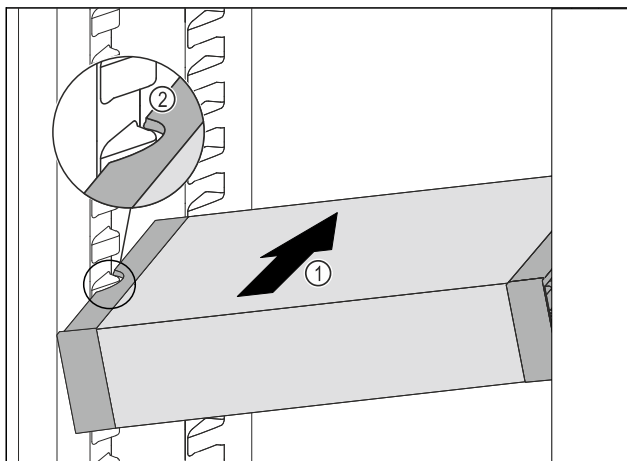

Fig. 196
- Insert the VarioSafe into the fridge section at an angle Fig. 196 (1) until the recesses in the side Fig. 196 (2) of the VarioSafe are at the level of the support rib in the fridge section.